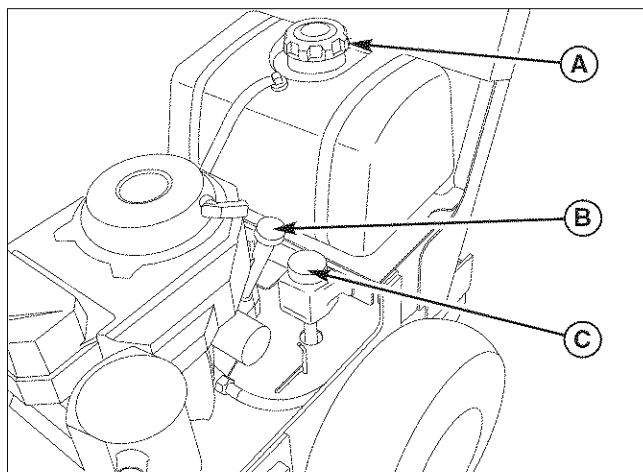

Figure 3. Pre-start Checks
- Check that crankcase is filled to full mark on the engine oil dipstick (B, Figure 3). See the engine Operator's Manual for instructions and oil recommendations.
- Fill the fuel tank (A) with fresh fuel. Refer to engine manual for fuel recommendations.
- Check the hydraulic oil tank (C) and make sure that the oil level is up to the FULL COLD mark.